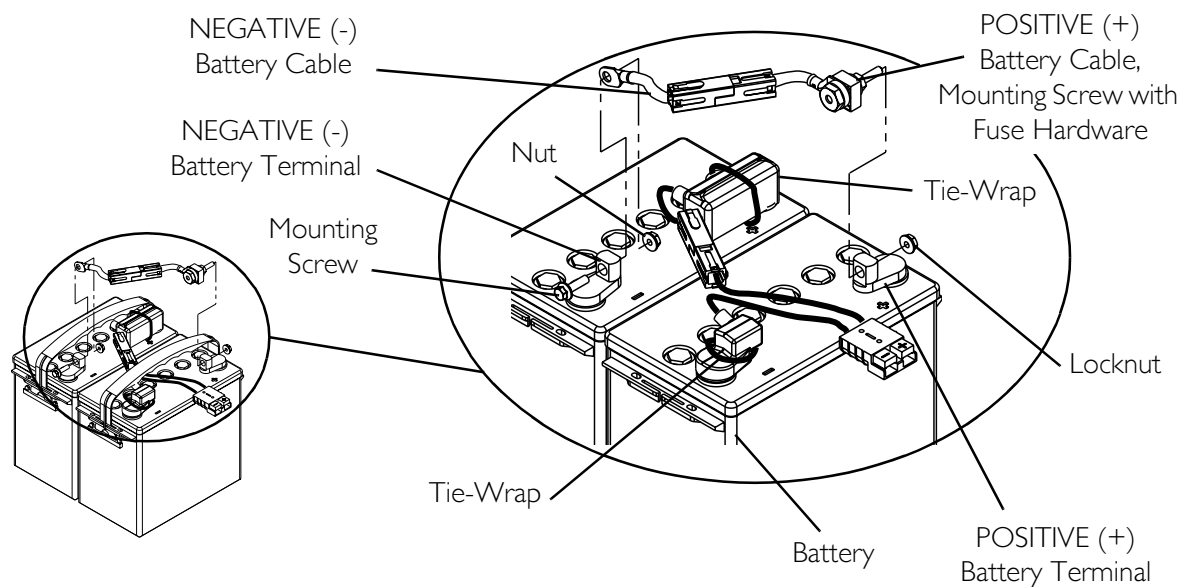

FIGURE 14.3 Connecting/Disconnecting the Battery Wiring Harness
When connecting the battery cables to the batteries, the battery cable(s) **MUST** be connected to the battery terminal(s)/post(s) as shown in **FIGURE 14.3** otherwise damage to the battery may result.
NOTE: For this procedure, refer to FIGURE 14.3 on page 156.
3. Using the mounting screws and nuts, secure the NEGATIVE (-) BLACK battery cable to NEGATIVE (-) battery terminal/post as shown in FIGURE 14.3.
4. Using the mounting screws and nuts, secure the POSITIVE (+) RED battery cable to POSITIVE (+) battery terminal/post as shown in FIGURE 14.3.
8. Using new tie-wraps, secure the terminal covers to the battery terminals as shown in FIGURE 14.3.
NOTE: For this procedure, refer to FIGURE 14.3.
4. Remove the mounting screws and nuts that secure the POSITIVE (+) RED battery cable to the POSITIVE (+) battery terminal/post as shown in FIGURE 14.3.
5. Remove the mounting screws and nuts that secure the NEGATIVE (-) BLACK battery cable to the NEGATIVE (-) battery terminal/post as shown in FIGURE 14.3.